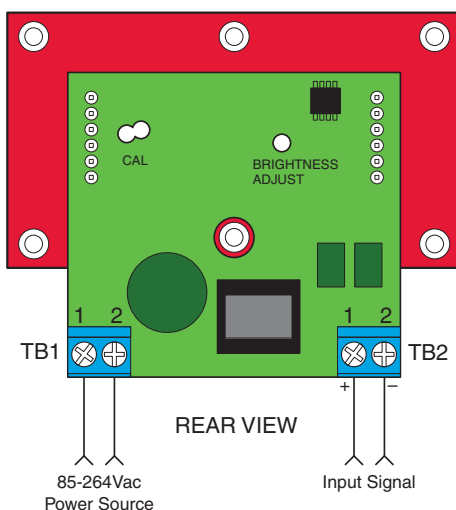

Figure 1. DMU-30ACV wiring diagram
**3. Power Supply Polarity, Fusing, and Grounding:** The power supply inputs, (TB1 and TB1-2) on DMU-30ACV voltmeters are not polarity sensitive, that is, they have no "AC LO" or "AC HI" designations. These units do not include or require a connection to earth/chassis ground. Refer to Figure 1 for a typical wiring diagram.